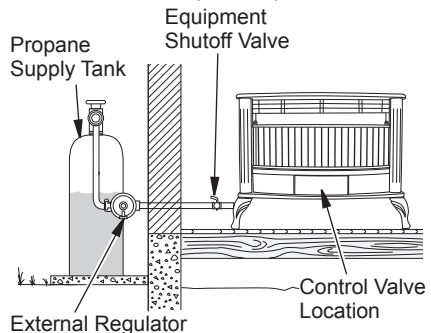

Figure 13 - Checking Gas Joints for Propane Gas
3. Check all joints from gas meter to equipment shutoff valve for natural gas or propane supply to equipment shutoff valve for propane (see Figure 13 or 14). Apply a noncorrosive leak detection fluid to all joints. Bubbles forming show a leak.
4. Check all joints from equipment shutoff valve to control valve (see Figure 13 or 14, page 14). Apply a noncorrosive leak detection fluid to all joints. Bubbles forming show a leak.